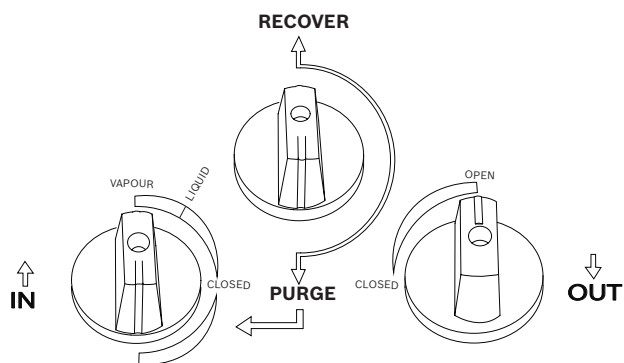

Fig.5: Valve positions for purging residual refrigerant
4. Turn the recovery / purge (Black) knob of RG4.0 to **PURGE** position (pointed downwards) as shown in Fig. 5.
5. Start the RG4.0 and slowly turn the inlet (Blue) control valve of the RG4.0 to **PURGE** position as shown in Fig. 5.